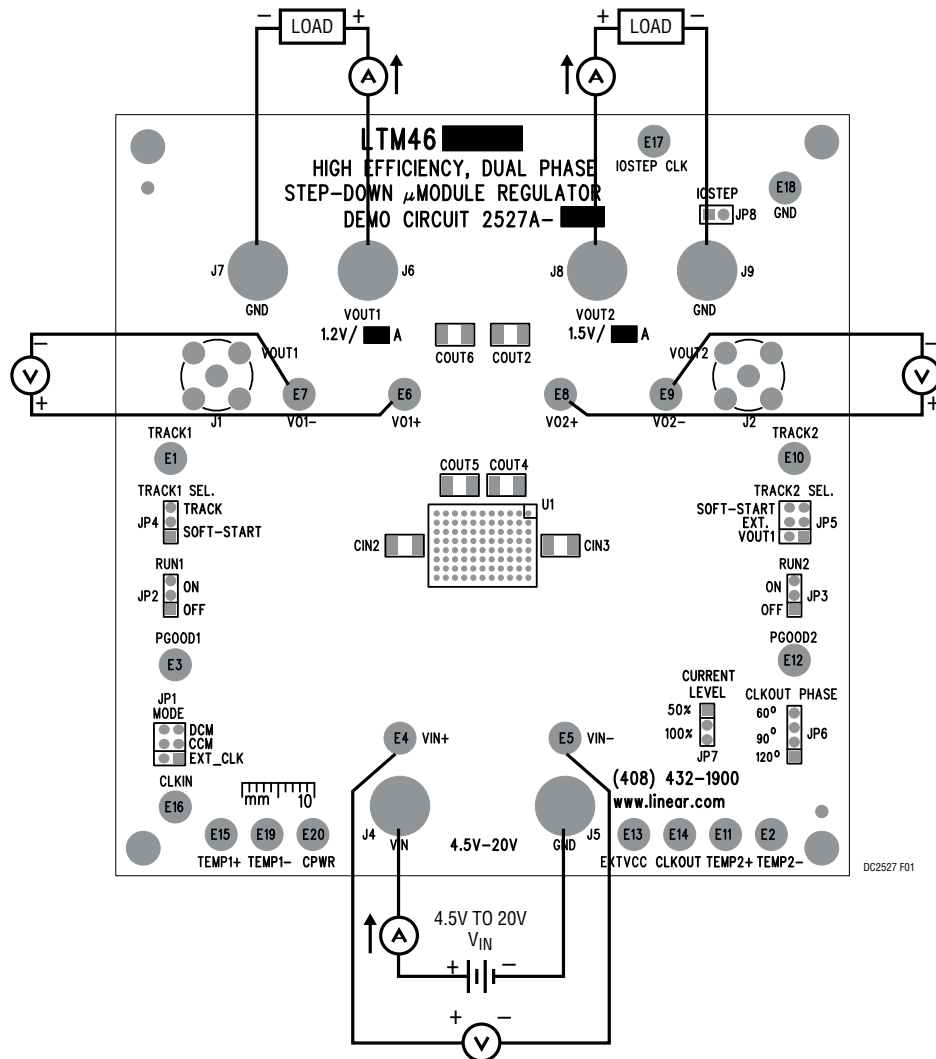

Figure 1. Measurement Setup of DC2527A
Demonstration circuit DC2527A-A is an easy way to evaluate the performance of the LTM4662EY. Please refer to Figure 1 for proper measurement equipment setup and follow the procedure below:
2. With power off, connect the input power supply, load and meters as shown in Figure 1. Preset the load to 0A and  $V_{IN}$  supply to 12V.